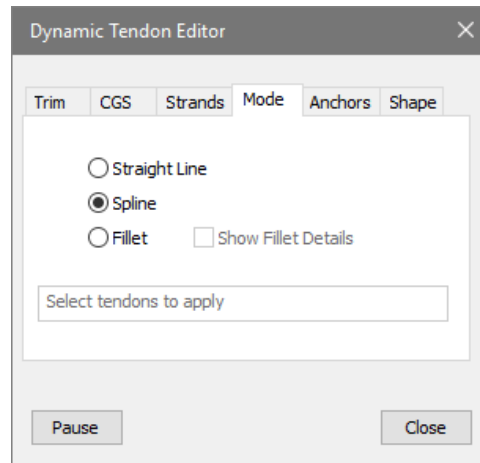

Figure 9-47
- Click on the radio button for *Spline* as shown in **FIGURE 9-47**.